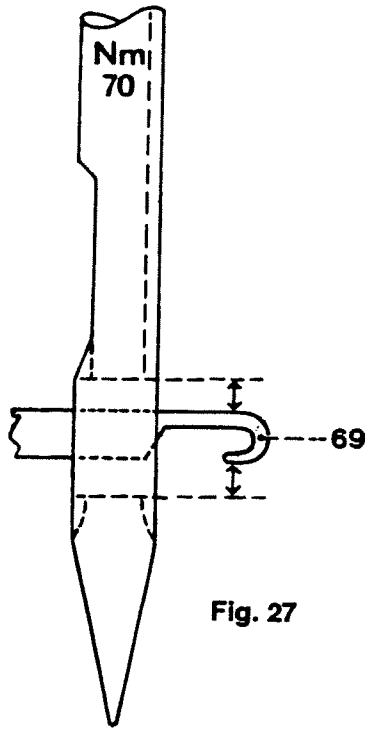

Fig. 27
With the threader key pushed fully down, prong 69 must pass through in the center between the top and bottom edge of the needle eye of a needle of size Nm 70 (fig. 27). The prong must have equal distance to the side edges of the needle eye.
- Push threader bar 65 upward or downward until prong 69 is the same distance from the top and bottom edge of the needle eye (fig. 27).